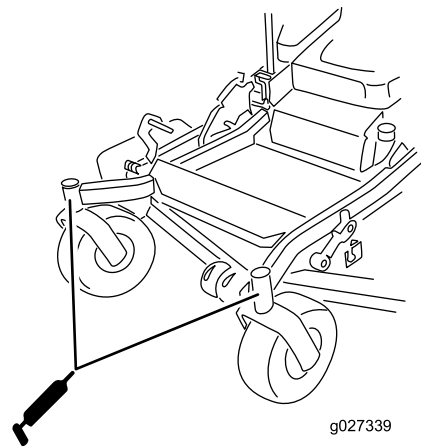

Figure 50
12. Install the hex plug and dust cap (Figure 50).
13. Grease the caster-wheel bearings (Figure 50).